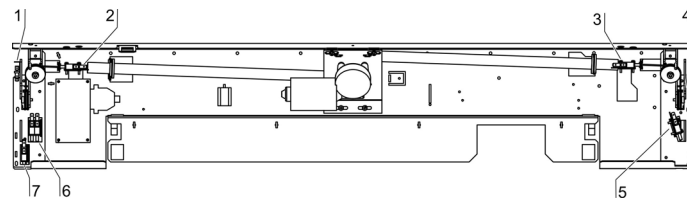

Figure 77. Position switches
3. **Figure 77:** Upon closing contact (traveling motion stops), the left and right bearings [1] must be seated completely in the recesses of the upper guide rails [2] (installed to the plenum cover panel).